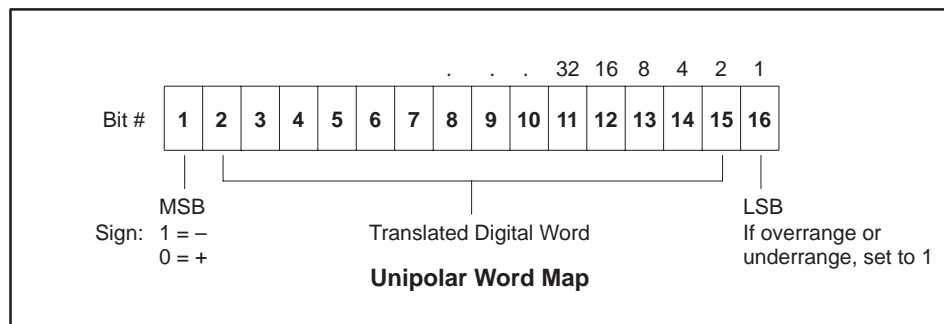

Figure 1-2 Word Input to the PLC from the Module (Unipolar)
**Unipolar Presentation** As shown in Figure 1-2, of the two bits not used for the digital word, one is used to show the sign of the word, one is used to note values which are “overrange/underrange.”